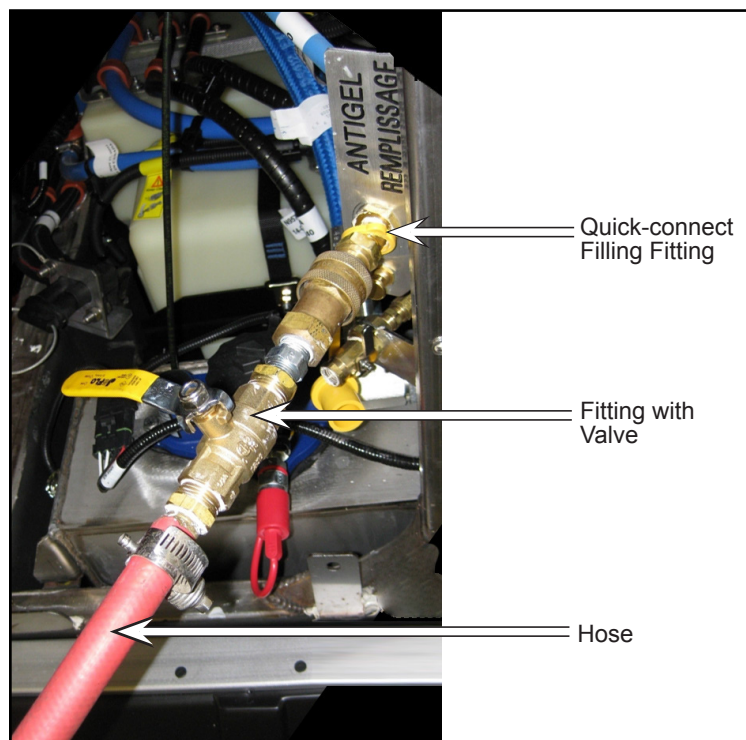

Figure 6 - Typical Location of Quick-connect Filling Fitting
- 1.10. Connect a hose equipped with a fitting and a valve to the quick-connect filling fitting of the cooling system (see Figure 6). Make sure the valve on the hose is closed before connecting the hose. Open the valve on the hose and let the coolant drain into an appropriate container.
- 1.18. Connect a hose equipped with a fitting and a valve to the quick-connect filling fitting of the cooling system, located in the engine compartment (see Figure 6). Make sure the valve on the hose is closed before connecting the hose. Use an electrical filling pump.